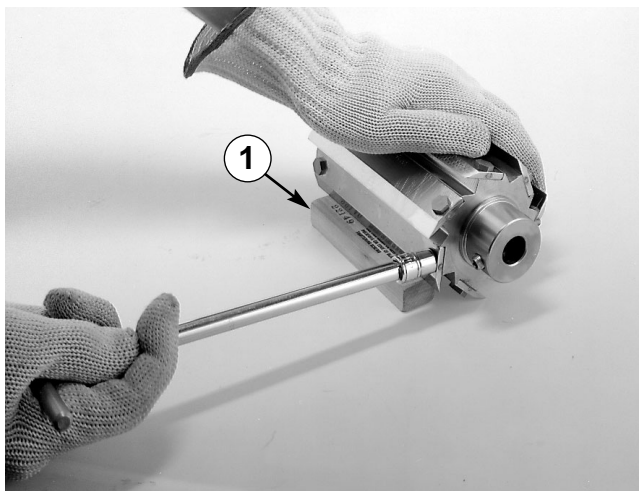

Figure 37 — Using wooden block to hold knife against seat. (1) Wooden Block
1. **Install knives.** Knives must be seated tight against back of knife seat. Use wooden block supplied with machine to hold knife against seat while tightening fasteners (Figure 37).